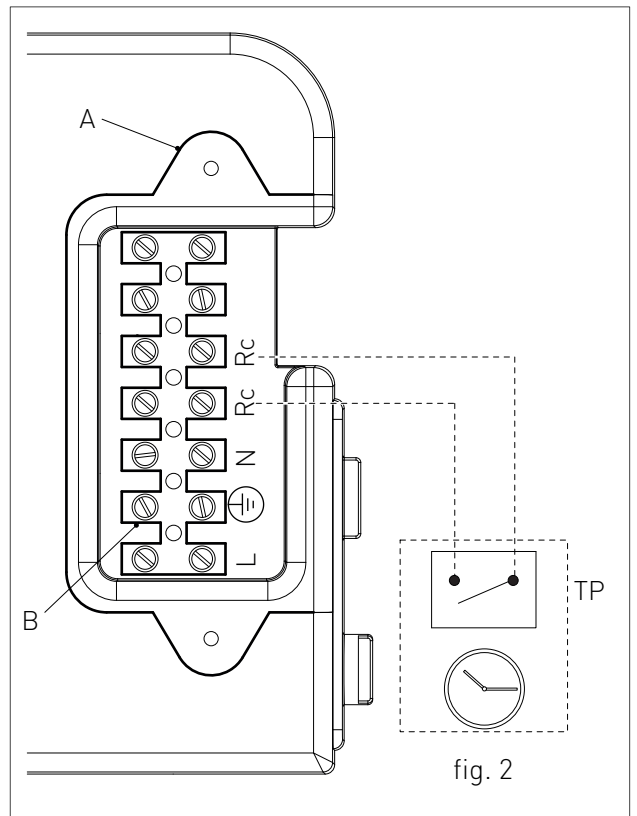

fig. 2
- > remove the water heater front casing (see chapter ACCESSING THE WATER HEATER); unscrew the screws and remove plate "A" (see fig. 2).
- > After removing the plate, connect the electrical cables to terminal block "B" (see fig. 2);